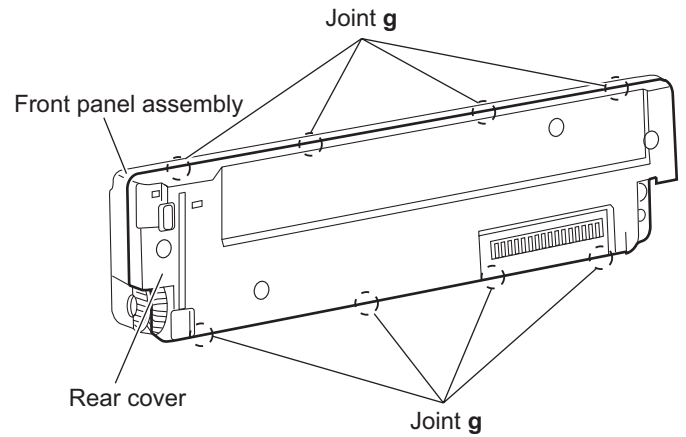

Fig.11
- (2) Release the eight joints **g**, remove the rear cover from the front panel assembly. (See Fig.11.)